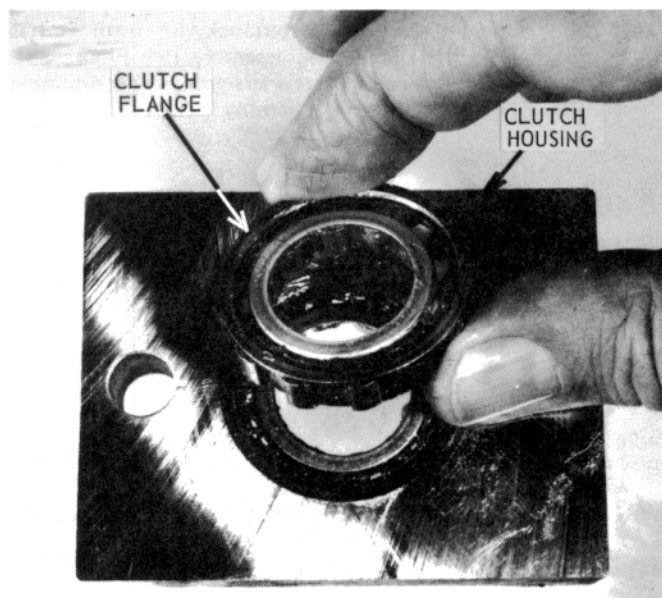

Figure 40 — Mainshaft Clutches and Clutch Housing
- 1.2.16 External clutch flanges must be on the shiny milled side of the mainshaft clutch housing and must face up (see Figure 40).